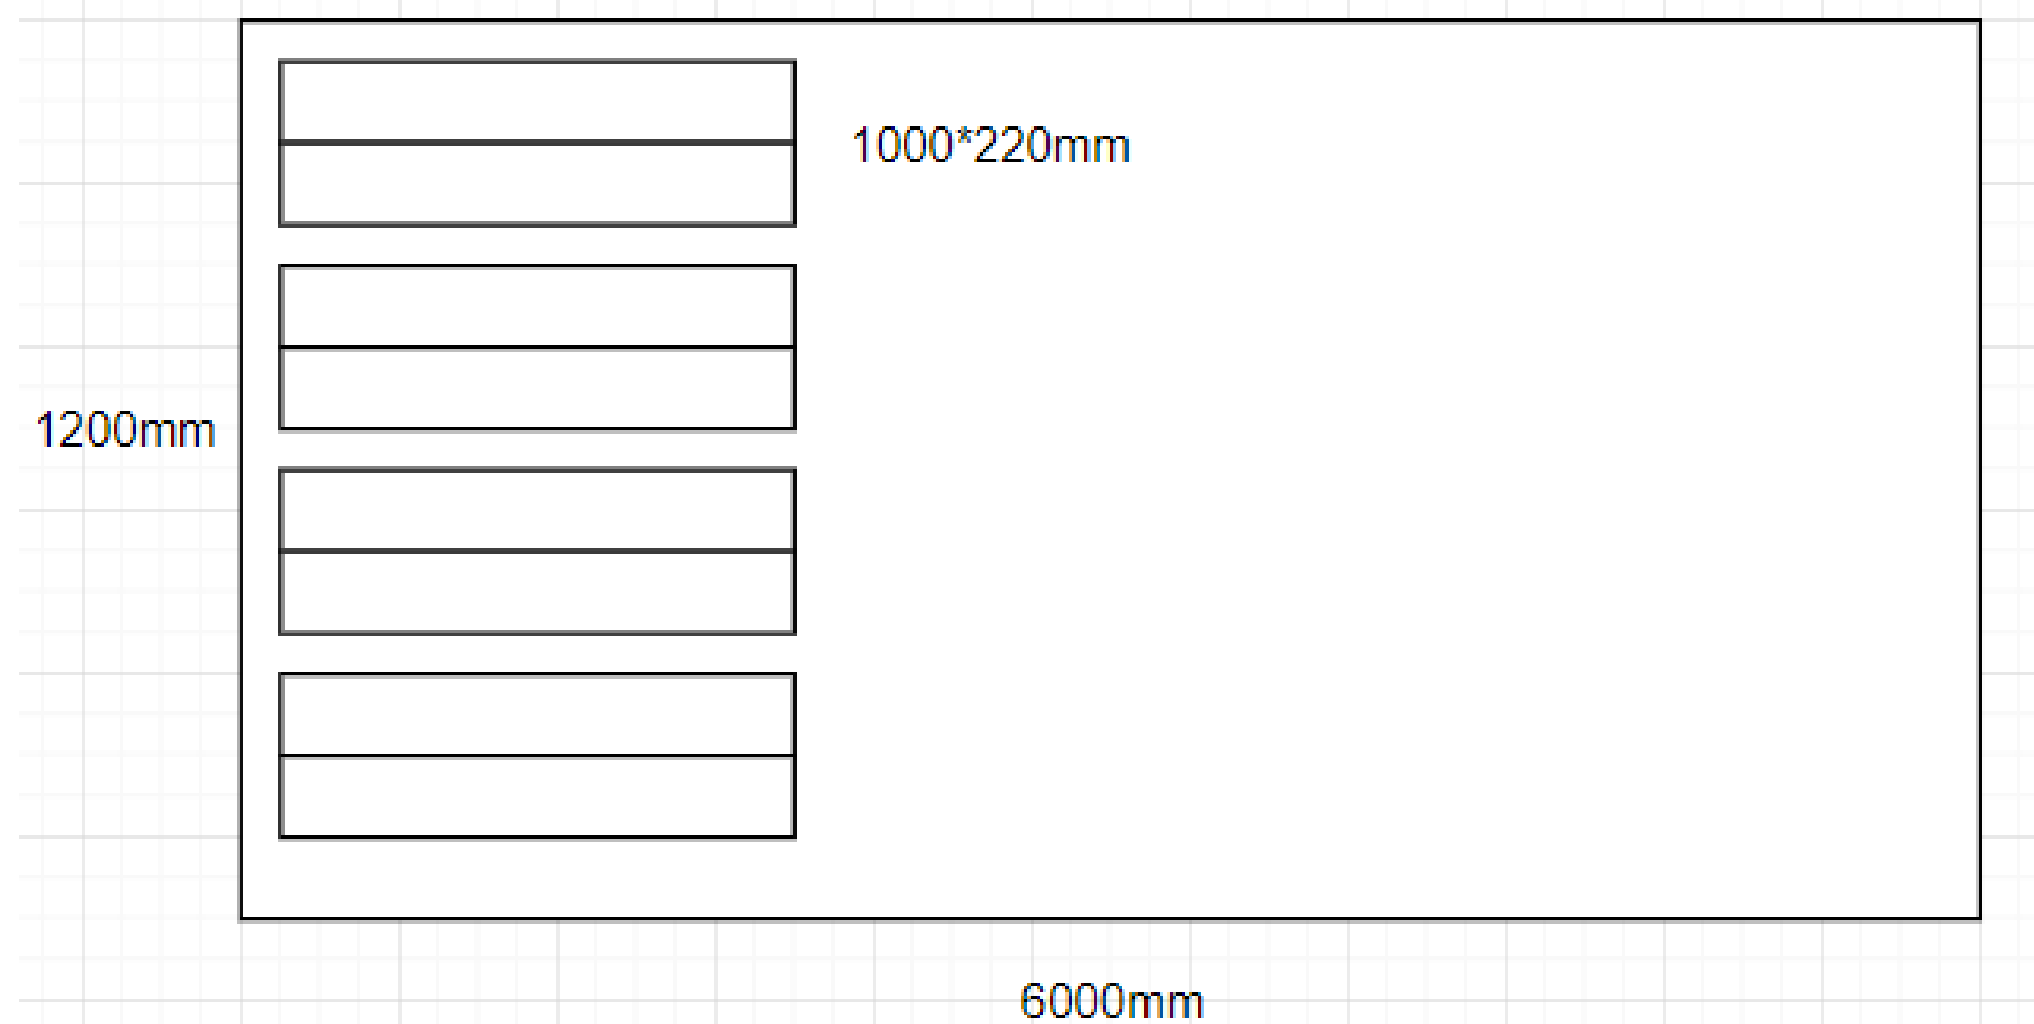

FIGURE 3
- The modified design measurements can be seen in Fig.3 including the cutting tolerance which were required.